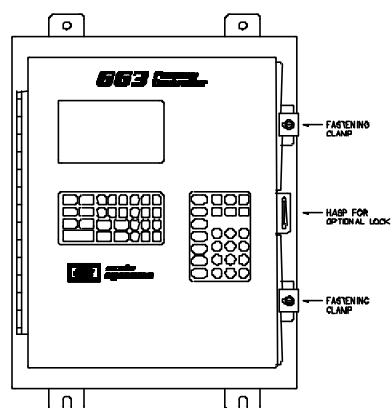

Figure 2-11: 663 Front Panel
2. Using a large, flat-tip screwdriver, loosen the spring-loaded 1/4-20 slotted pan head screws in the two fastening clamps on the right side of the controller, and slide the clamps to the right (see Figure 2-11).
6. Slide the exterior door fastening clamps to the left (see Figure 2-11).